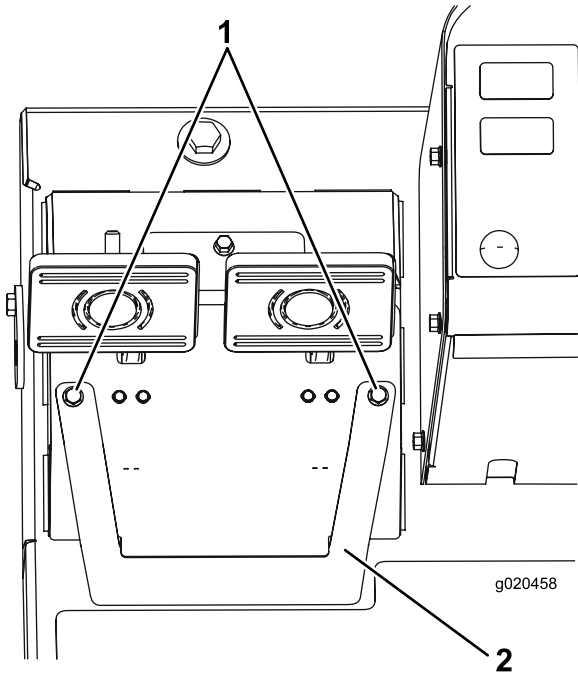

Figure 98
- A. Loosen the 2 mounting screws and remove the brake-adjustment cover (Figure 98).